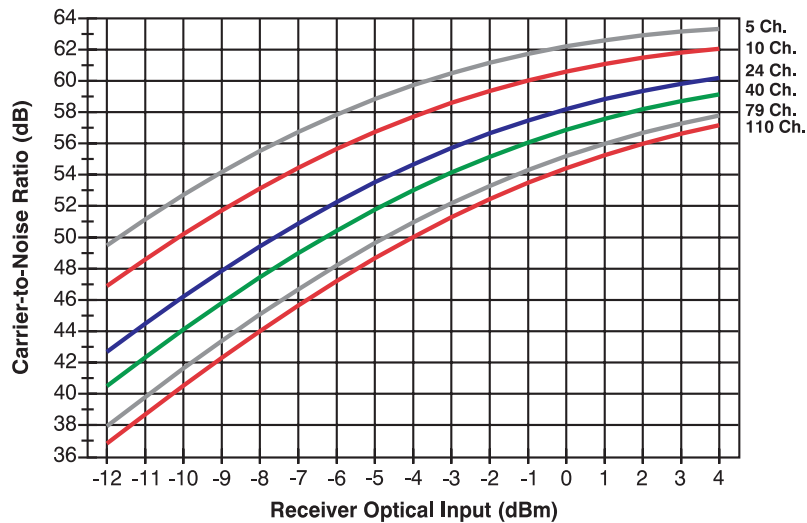

Figure 1.4 CNR vs. Receiver Optical Input at 110 Channels
- 4) Figure 1.4 shows the CNR versus received optical input power and number of channels. The horizontal axis is the amount of optical light that reaches the receiver. (It is not the loss between the transmitter and receiver.) The vertical axis shows the CNR.